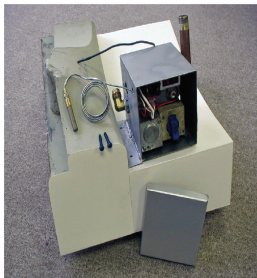

Figure 2
3) As shown in Figure 2, lay leg "A" on its face (on a smooth non abrasive surface to prevent damaging the surface) to begin the assembly of the gas system.